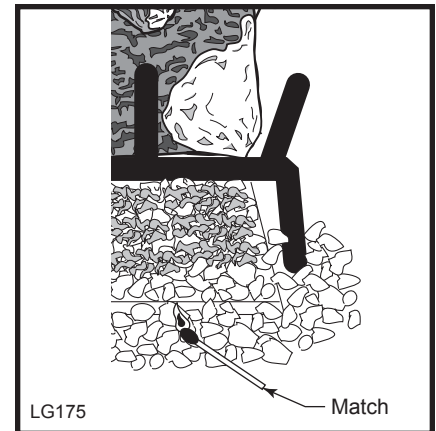

Fig. 16 Lighting the log set.
2. Wait five (5) minutes to clear out any gas. If you then smell gas STOP! Follow the safety information above. If you don't smell gas, go on to the next step.
3. Light a match and lay it on top of the pan material, about 2" from the end of the supply side of the pan (Fig. 16).
4. Slowly turn the gas shut-off valve ON until the burner ignites. If the burner doesn't ignite within ten (10) seconds with the match burning, turn the shut-off valve OFF and repeat steps 1 through 4 again.